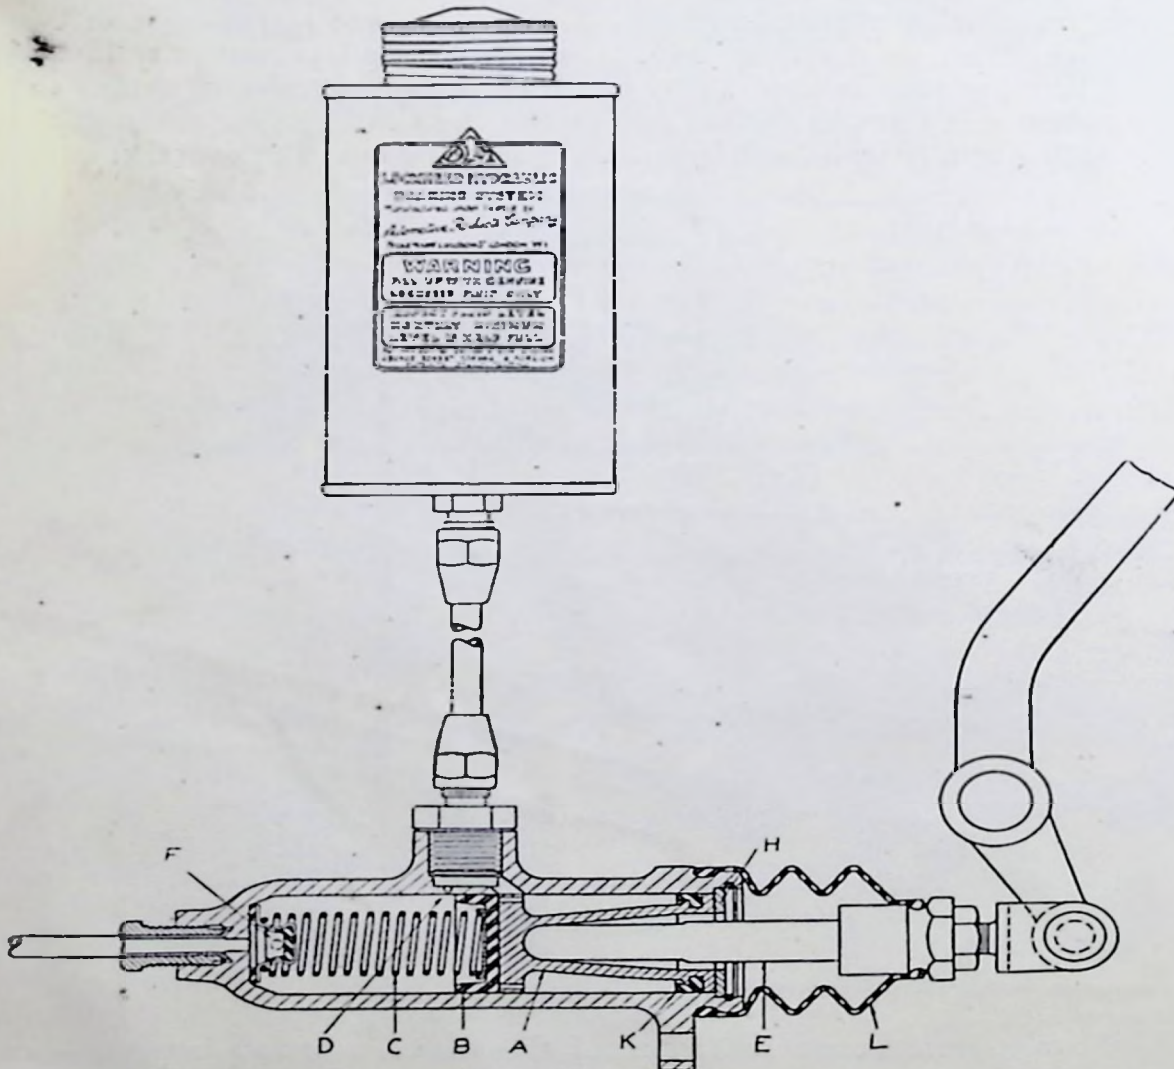

Fig. 2.
Within the master cylinder, Fig. 2, is a piston (A) and a cup washer (B), normally held in the "off" position by a coiled spring (C). Immediately in front of the cup washer, with the piston in the "off" position is a small port hole (D), connecting the cylinder interior with the hollow boss above it, which is connected by a length of copper tube to the fluid supply tank. With any rise in temperature, causing the fluid to expand in the system, the fluid is allowed to pass through the port into the supply tank. With any drop in temperature causing the fluid to contract, the fluid flows back through the port, thus a constant volume of fluid is maintained in the system.
When the brakes are applied, the master cylinder piston is pushed forward and fluid is forced through holes in the metal valve body deflecting the walls of the rubber cup and so passing into the system. When the pedal is released, the master cylinder return spring forces the piston back to its "off" position against its stop (H, Fig. 2), at the same time the pistons in the wheel cylinders are forcing fluid back and so lifting the whole valve assembly off its seat by the action of the brake shoe return springs until the fluid pressure balances with the effort of the master cylinder return spring, and the inlet valve closes.